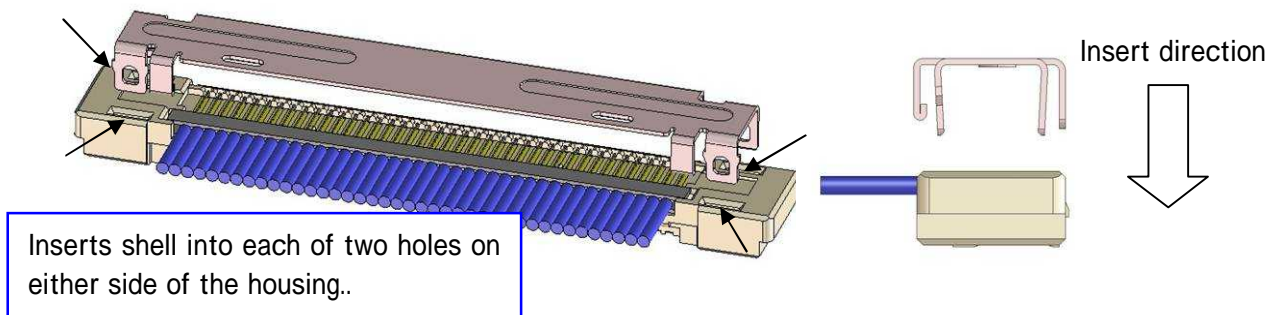

Figure5-7.shell assembly
5.5.1 Assemble shell to the housing (Manual task / No jigs are needed) and press-fit in vertical direction (Refer to figure5-7).